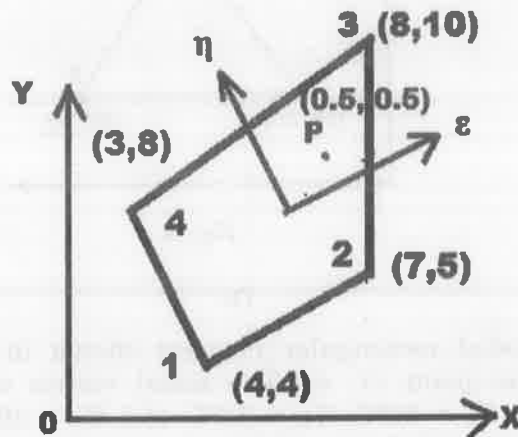

Fig.7
- (b) Evaluate the Jacobian matrix at the local coordinates $\xi = \eta = 0.5$ for the linear quadrilateral element with its global coordinates as shown in Figure 7. Also, evaluate the strain-displacement matrix.